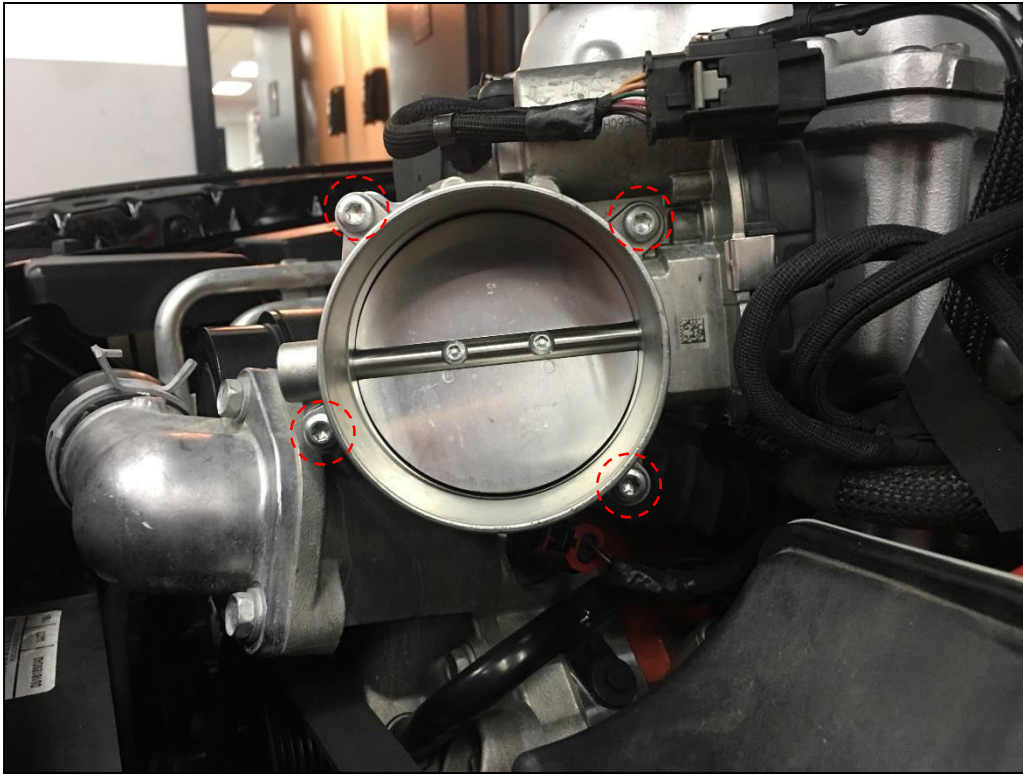

Figure 7 – Throttle Body Removal
5. Using a T30 Torx socket, remove the throttle body bolts and set throttle body aside. See **Figure 7**.